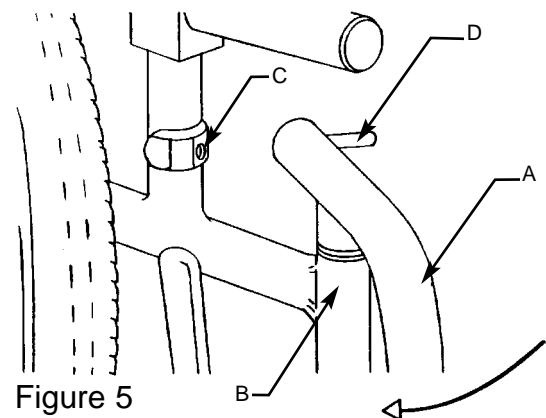

Figure 5
- 5 Fit the footrest hangers by locating each footrest hanger (A) in to the wheelchair frame socket (B) and rotate the footrest hanger until it locks into the hole at position (C). The locking pin (D) will lock the footrest hanger into position (see FIG 5).